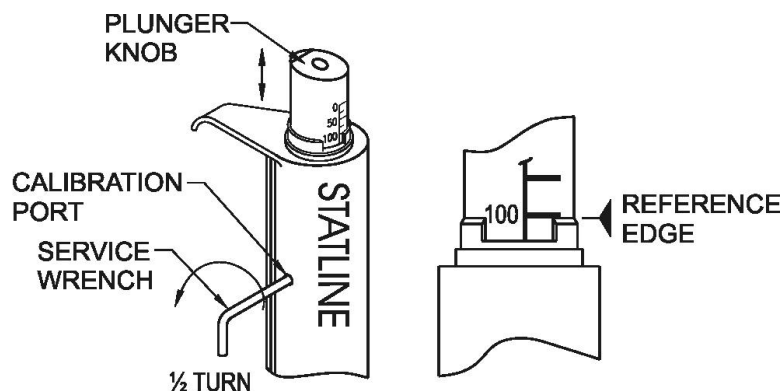

Figure 1
(adjustable models) (See Figure 1)
3. Adjust plunger knob to the desired volume setting, lining up the lower edge of the desired volume line with the reference edge. See Figure 1.
Calibration (See Figure 1)